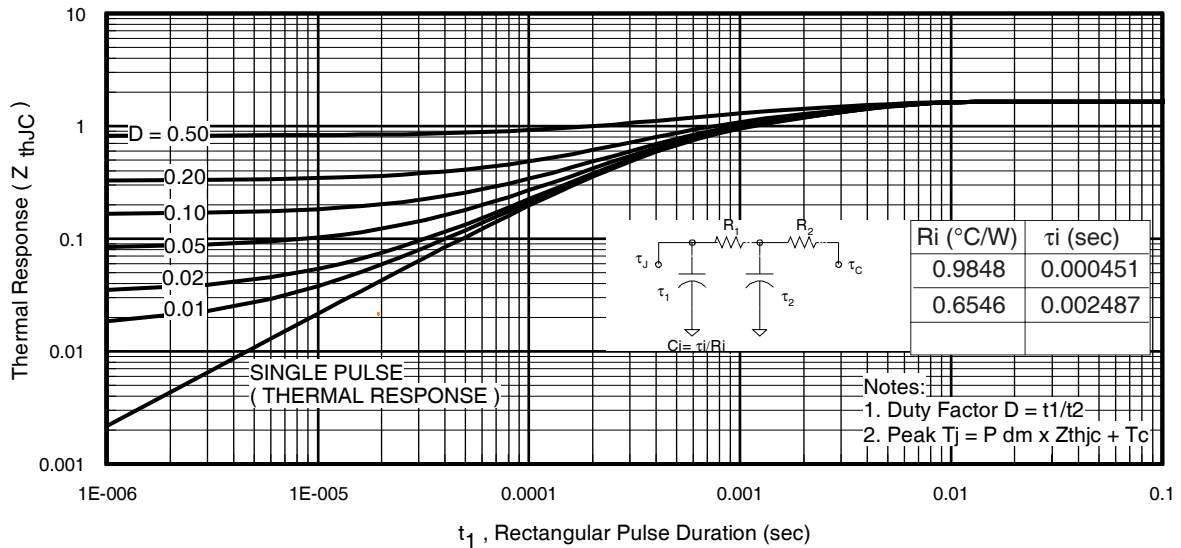
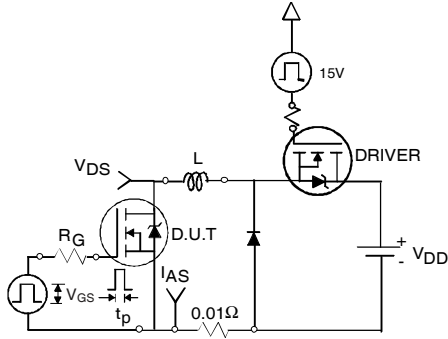

Fig 11. Maximum Effective Transient Thermal Impedance, Junction-to-Case
Fig 12a. Unclamped Inductive Test Circuit
- ① Repetitive rating; pulse width limited by max. junction temperature. (See fig. 11).
- ② Limited by T_{Jmax} , starting $T_J = 25^\circ\text{C}$, $L = 0.11\text{mH}$, $R_G = 25\Omega$, $I_{AS} = 37A$, $V_{GS} = 10V$. Part not recommended for use above this value.
- ③ $I_{SD} \leq 37A$, $di/dt \leq 920A/\mu s$, $V_{DD} \leq V_{(BR)DSS}$, $T_J \leq 175^\circ\text{C}$.
- ④ Pulse width $\leq 1.0\text{ms}$; duty cycle $\leq 2\%$.
- ⑤ $C_{oss\text{ eff.}}$ is a fixed capacitance that gives the same charging time as C_{oss} while V_{DS} is rising from 0 to 80% V_{DSS} .
- ⑥ Limited by T_{Jmax} , see Fig.12a, 12b, 15, 16 for typical repetitive avalanche performance.
- ⑦ This value determined from sample failure population. 100% tested to this value in production.
- ⑧ This is applied to D²Pak, when mounted on 1" square PCB (FR-4 or G-10 Material). For recommended footprint and soldering techniques refer to application note #AN-994.
3. Equation below based on circuit and waveforms shown in Figures 12a, 12b.
$Z_{thJC}(D, t_{av})$ = Transient thermal resistance, see figure 11)